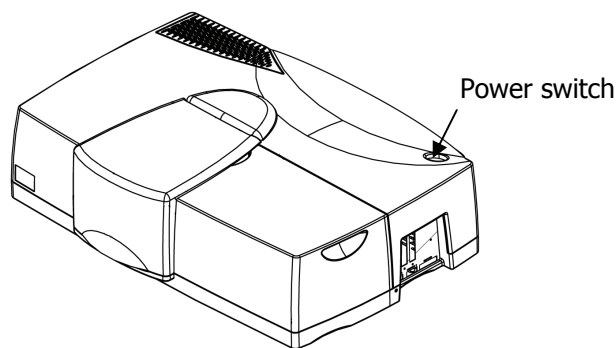

Figure 24 Power switch
4. Switch on the power switch located at the top right-hand corner of the instrument, as shown in Figure 24.